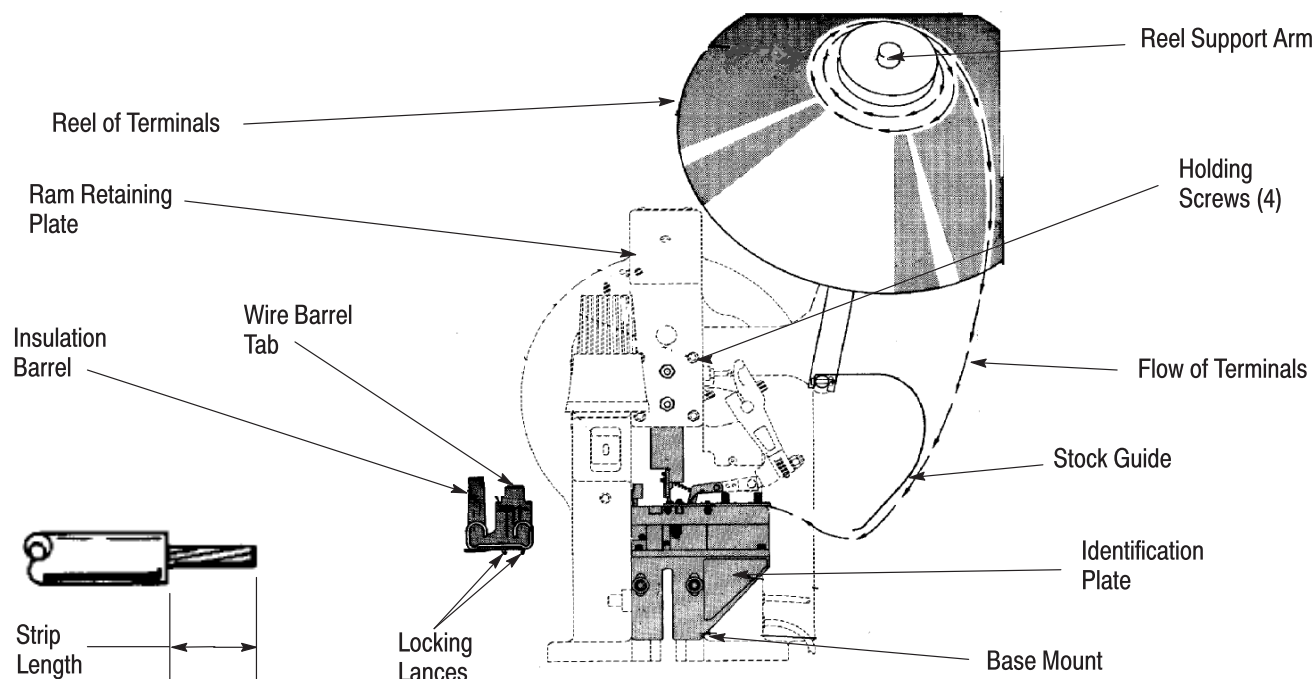

Figure 1
Figure 1 illustrates many of the machine components.
The applicator's identification plate (Figure 1) shows the serial number, as well as the applicator number. The serial number identifies a particular applicator. The applicator number identifies the applicator as one that can crimp terminals appearing on the parts list.
2. Remove the air feed assembly from the applicator by removing the holding screws on the back of the base mount (Figure 1). If the machine has mechanical feed, remove the feed arm from the feed arm drive shaft.
1. Remove the ram retaining plate by removing the four holding screws shown in Figure 1.
1. Place the reel of terminals on the reel support bar so they will enter the applicator with their wire barrels "upright." See Figure 1.